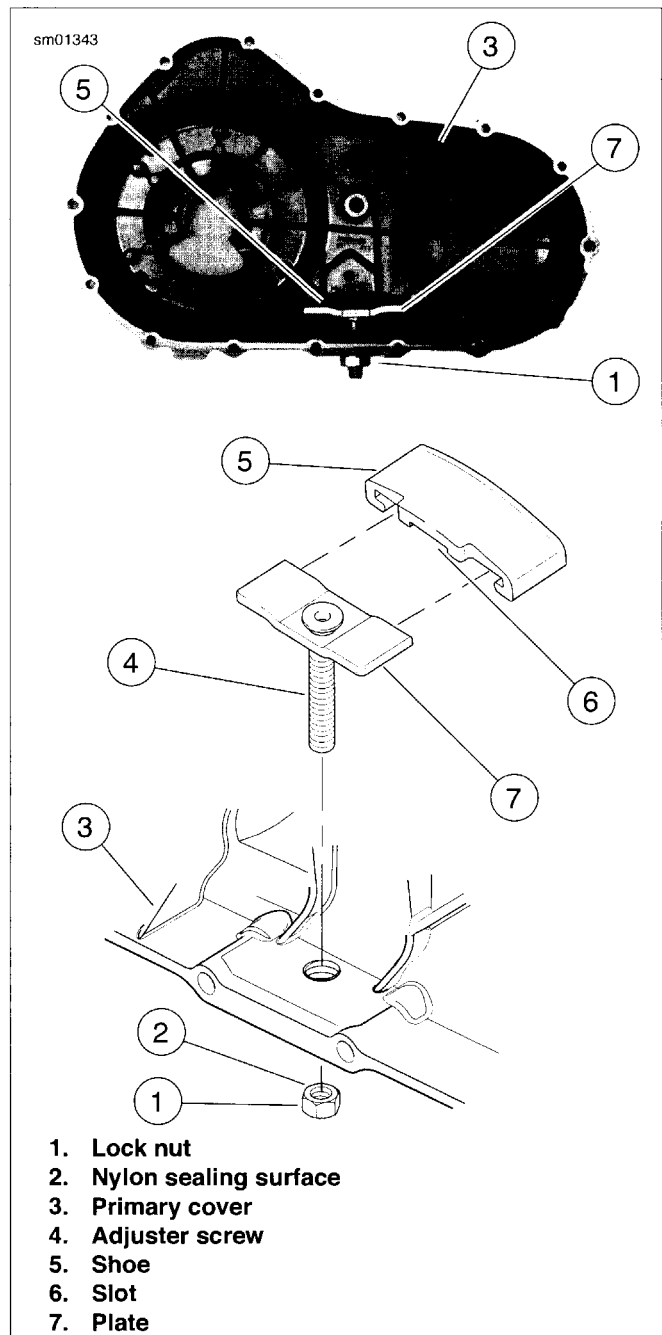

Figure 5-5. Primary Chain Adjuster Assembly
See Figure 5-5. Remove lock nut (1) from adjuster screw (4). Turn adjuster screw out of threaded boss in primary cover (3).
1. See Figure 5-5. Inspect primary chain adjuster shoe (5). If badly worn or damaged, it must be replaced.
2. Position adjuster inside primary cover (3) with closed side of shoe against cover. Thread adjuster screw (4) all the way into tapped boss at bottom of primary cover.
3. At outside of cover, thread lock nut (1) onto adjuster screw with nylon sealing surface (2) toward cover. A 1/4-inch hex wrench may be inserted into end of adjuster screw to hold it while threading lock nut.